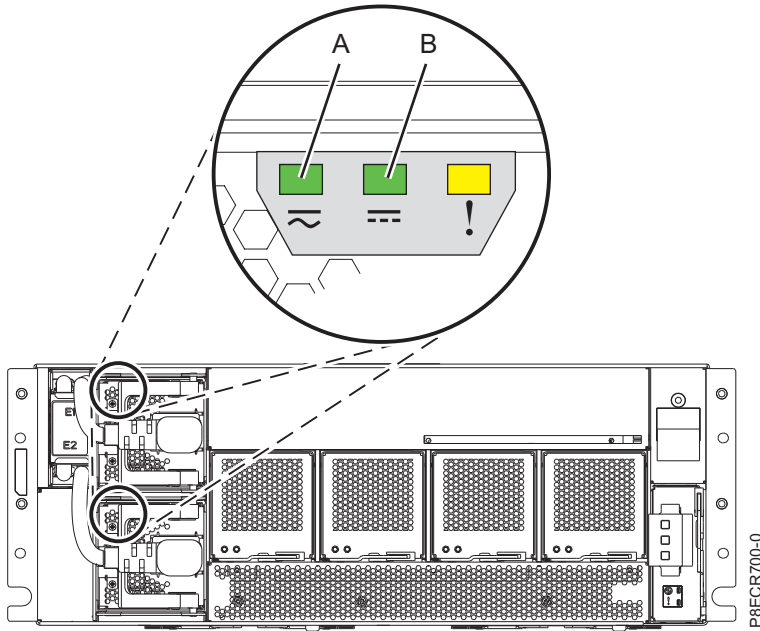

Figure 15. Verifying the power supply LEDs are on
1. Ensure the power input LED (A) on the power supplies is on. See Figure 15 on page 11.